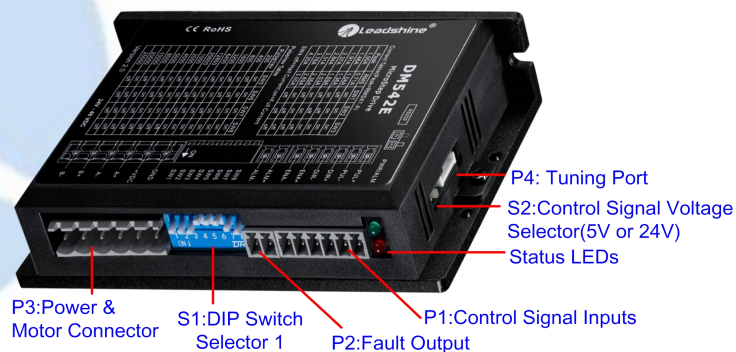

Figure 2 Connectors, DIP switches, and LED locations
PUL+	Pulse and Direction Connection: (1) Optically isolated, high level 4.5-5V or 24V, low voltage 0-0.5V (2) Maximum 200 KHz input frequency (3) The width of PUL signal is at least 2.5 μ s, duty cycle is recommended 50% (4) DIR signal requires advance PUL signal minimum 5 μ s in single pulse mode (5) The factory setting of control signal voltage is 24V, must need to set S2 (figure 2) if it is 5V
The P4 connector in Figure 2 is a RS232 communication port for PC connection. Refer to the following pin definitions. It is just used to modify parameter, not for equipment control because neither precision nor stability is sufficient. If you
The DM542E can accept can accept differential or single-ended control signals (pulse, direction, and enable) in open-collector or PNP connection through the P1 connector (figure 2). It is recommend to add an EMI line filter between the power supply and the drive to increase noise immunity for the drive in interference environments.
- (1) ENA signal is no-connected as default;
- (2) Control signal amplitude is 24 V as default. If it is 12 V, please set the S2 (Figure 2) selector switch to 5 V first, then connect 1K Ω resistor; If it is 5V, please set the S2 to 5V.
The second 1-bit selector is located on the top (S2 in figure 2), used to configure the voltage of control signals. For the safety of optically coupled, the factory setting is 24V, which no need to connect 2K resistors like the old drives, making it easier to use. When the voltage of the control signal is 5V, the S2 must be set to 5V, otherwise, the motor won't work.